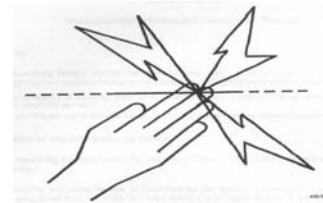

Fig. 1
- >The size of the warning sign must be at least 100mm x 200mm. The background colour of both sides of the warning sign is to be yellow. The inscription on the sign is to be black and shall be either the symbol shown (Fig. 1 ) or the words - "WARNING - ELECTRIC FENCE"